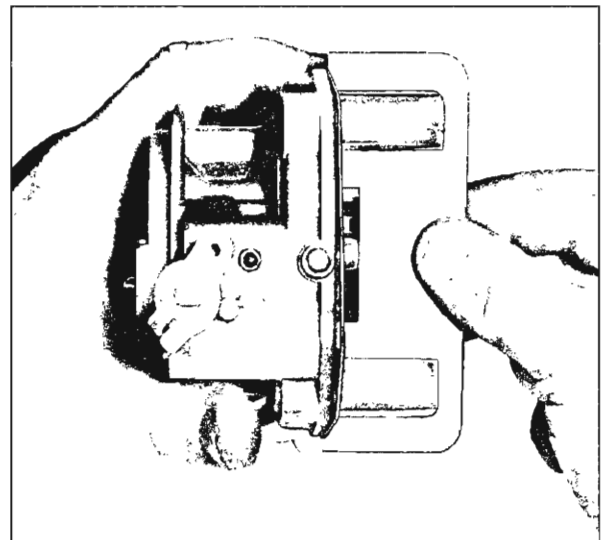

Fig. 9—Float Alignment
5. Hold cover sideways and check float centering using same gauge. Floats should not touch gauge legs (fig. 9).